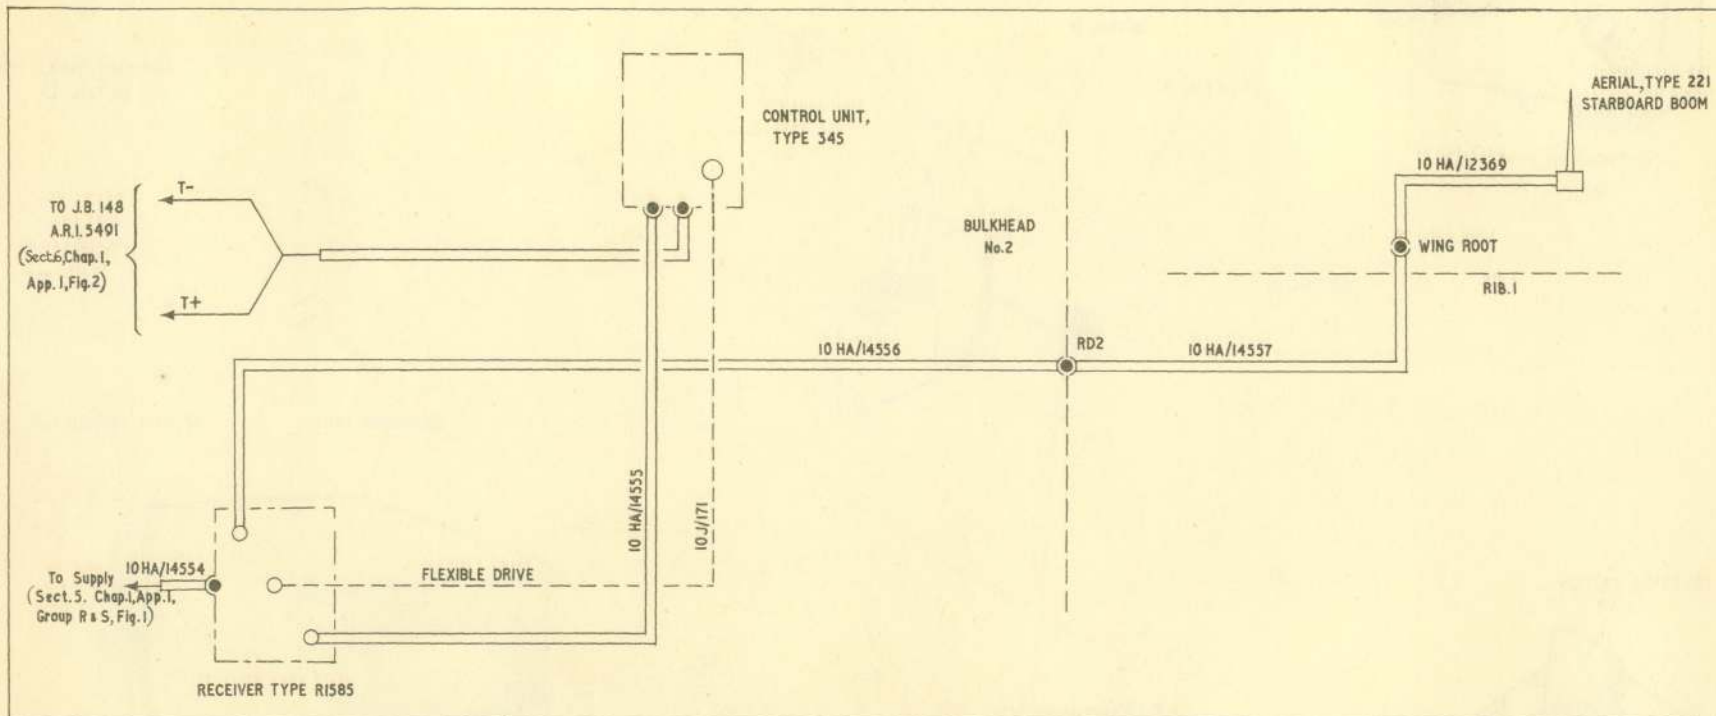

Fig. 2. A.R.I. 5307 (ZBX) wiring
1. This group describes the Z.B.X. installation, together with servicing notes and removal instructions. The installation drawing (*fig. 1*) shows the location of the equipment in the aircraft, and the wiring diagram (*fig. 2*) gives the interconnection of units and components, cable breakdown points and a reference to the power supply source.